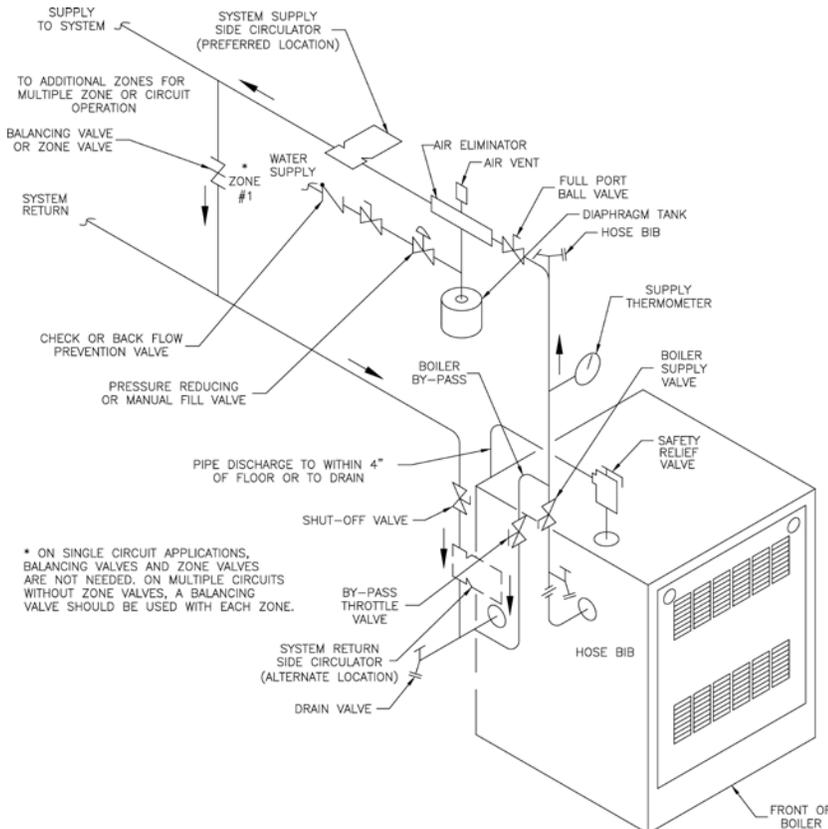

Figure 3: Recommended Water Piping for Zone Valve Zoned Heating Systems
- E. For heating only system piping, see Figure 3. Consult also I=B=R Installation Guides.
with a second tee in the supply piping as shown in Figure 3. The bypass should be the same size as the supply and return lines with valves located in the bypass and supply outlet as illustrated in Figure 3 in order to regulate water flow to maintain higher boiler water temperatures.